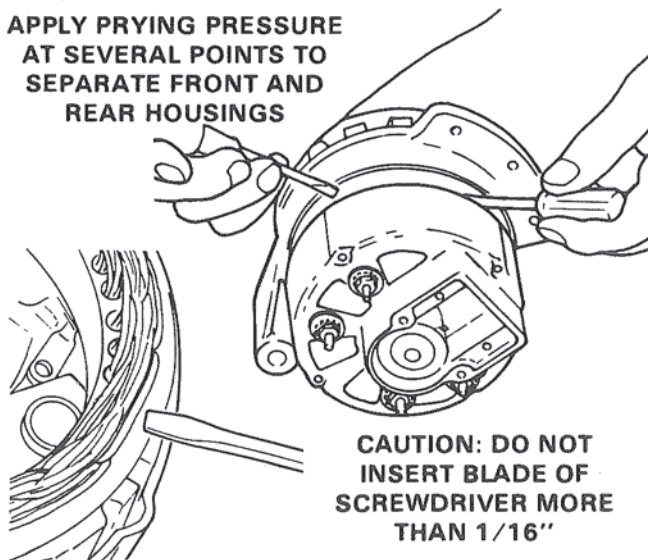

Figure 12. Separating Housings.
- B. Carefully insert two (2) screwdriver blades no more than 1/16" between housings and pry apart. Figure 12.